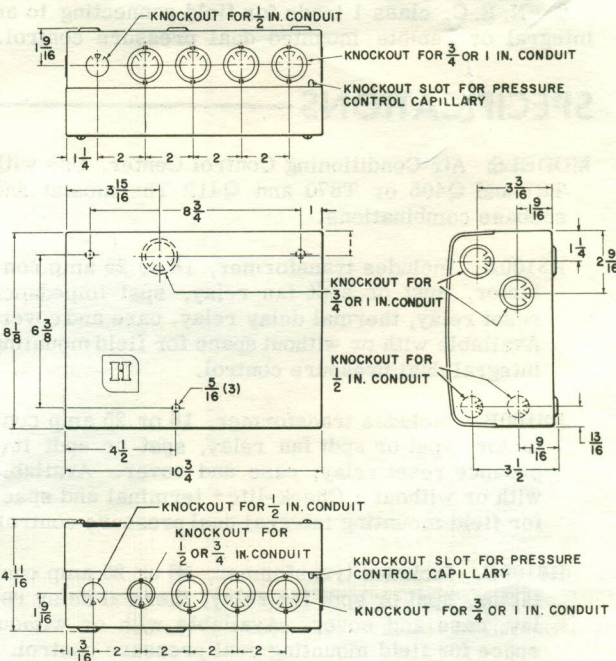

Fig. 3—R8100 case and cover dimensions (in inches) for units providing space for field addition of pressure control.
4. Remove either or both capillary knockout slots (See Fig. 3) as required.